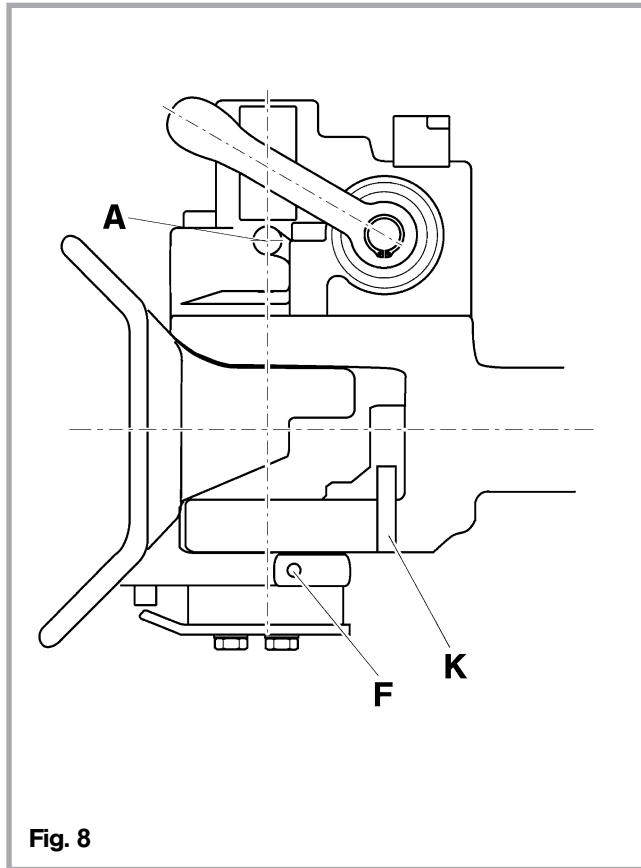

Fig. 8
- Under harsh operating conditions or severe exposure to dirt or water regrease automatic unit (A) when coupling is open (see fig. 8):
- Lubricate lower funnel bearing (F) and pressure bar on underside of coupling (K) with 3EP.